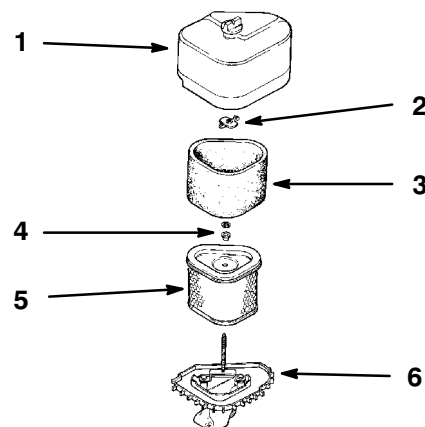

Figure 19
3. Unscrew the cover nut and remove the air cleaner cover (Fig. 19).
4. Remove the air cleaner assembly (Fig. 19).
5. Carefully slide the foam element off the paper element (Fig. 19).
1. Carefully slide the foam element onto the paper air cleaner element (Fig. 19).
2. Place the air cleaner assembly onto the air cleaner base (Fig. 19).
3. Install the air cleaner cover and secure it with the cover nut (Fig. 19).